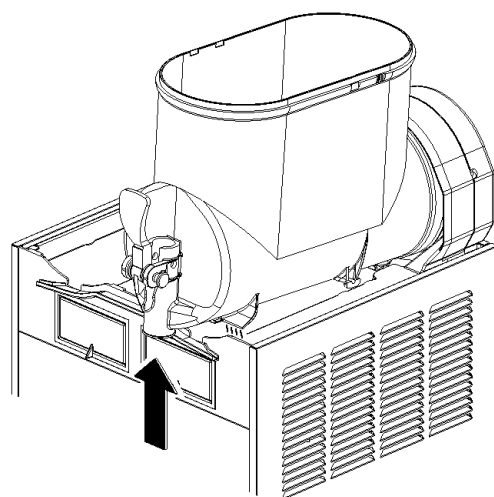
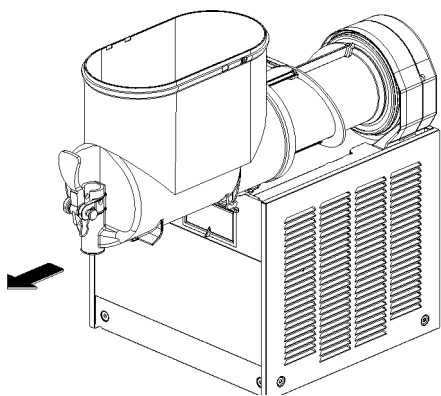

figure 5
figure 6
- 2 Remove the bowl by lifting its faucet side up and off the fastening hooks (see figure 5) and slide it out (see figure 6).